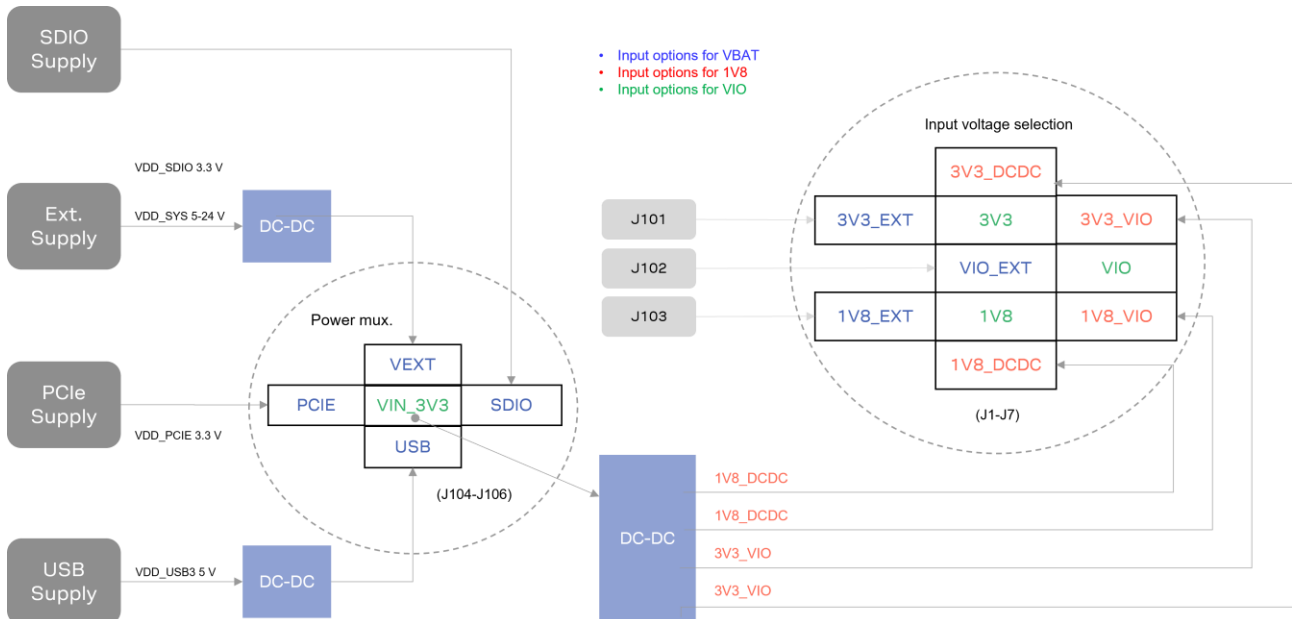

Figure 8: JODY-W3 EVB power supply tree
To operate the JODY-W3 EVB, the external power supply source (power mux) and input voltage levels to the module must be configured using jumpers on the EVB. The power supply tree, including the jumpers on the EVB, is shown in Figure 8. See also Jumpers and connectors.
**VIN\_3V3** is the input to the DC-DC converter on the EVB that generates the required voltage rails (**3V3\_DCDC**, **1V8\_DCDC**, **3V3\_VIO**, and **1V8\_VIO**) for the module, as shown in Figure 8. A single jumper is connected between **VIN\_3V3** and the chosen voltage supply to the EVB.
Use jumpers J1-J7 to select the external power source to the module, as shown in Figure 8. The input voltage to the module can be sourced from either the on-board DC-DC generated voltages or the direct input voltages from the separate external supplies J101-J103.